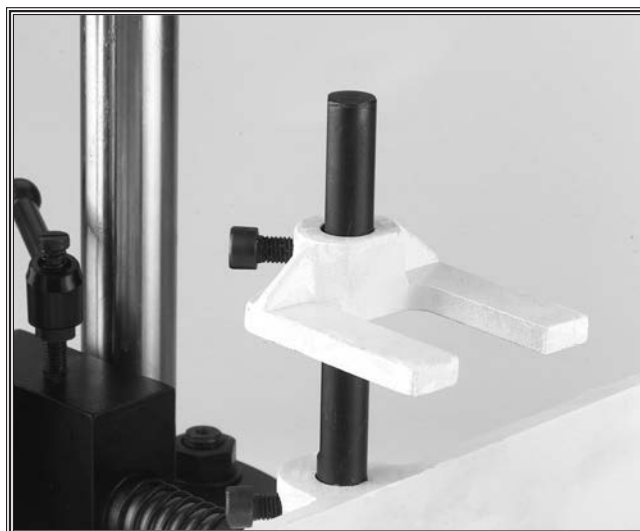
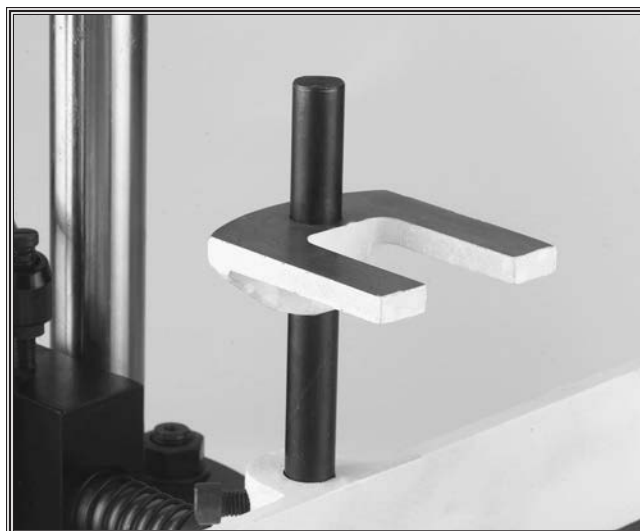

Figure 21. Bracket in the lowest position.
Figure 22. Bracket in the highest position.
3. The hold down bracket may be placed on the support rod in two positions. If placed on the support rod as in **Figure 21**, the bracket will hold down a workpiece slightly taller than the fence. When placed in the position shown in **Figure 22**, the bracket will hold down a workpiece that measures $\frac{3}{8}$ " less than the height of the support rod.